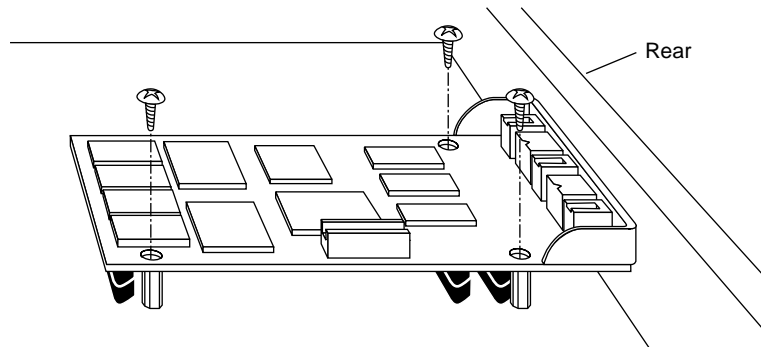

Figure 8 Removing the screws from the GIO option board
4. Using a Phillips screwdriver, remove the three screws that connect the GIO option board to the graphics board, as shown in Figure 8.